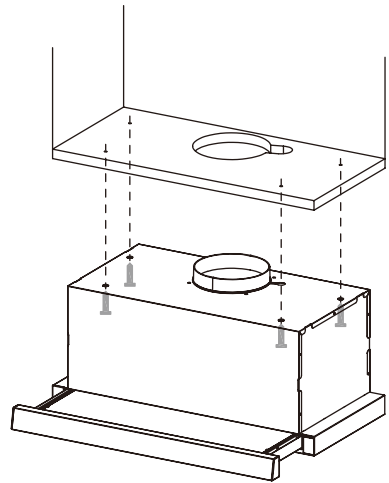

Fig.2
2. Fix the range hood to the cabinet with 4 screws (supplied) as shown in Fig. 2.